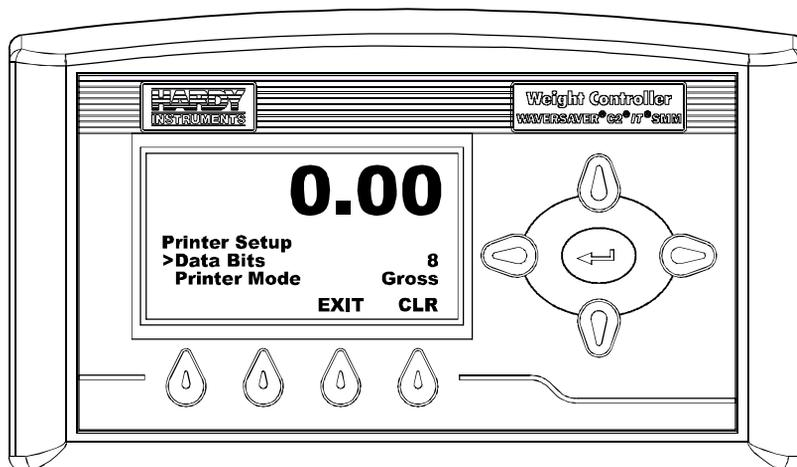

FIG. 94 PRINTER SETUP MENU/SELECTING DATA BITS
- Step 11. Press the Down Arrow button until the cursor is in front of Data Bits. (See Fig. 94) The current Data Bits value is displayed.